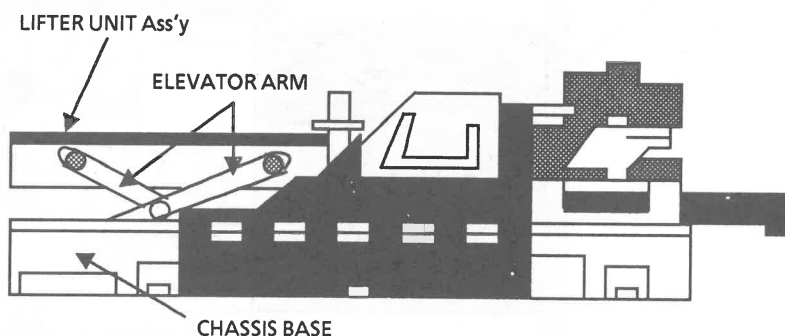

Fig.3
- 1) Remove the screw ⑬, and remove the feed nut support.
- 2) Remove the screw ⑭.
6. Removing the magazine holder (Fig.3)
- 2) Slide the magazine holder to arrow direction ①.
7. Removing the LIFTER UNIT Ass'y (Fig.3)